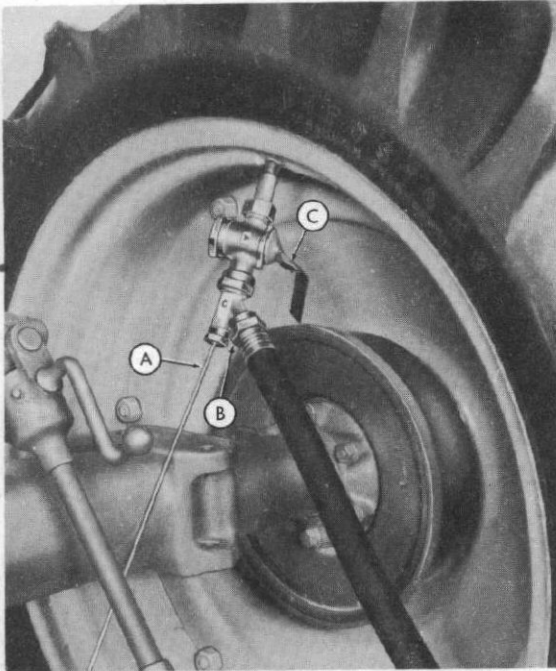

Fig. 6
- Step 21—Disconnect the hose from the adaptor (B-Figure 6) and remove the part "C" from part "A" of the adaptor.